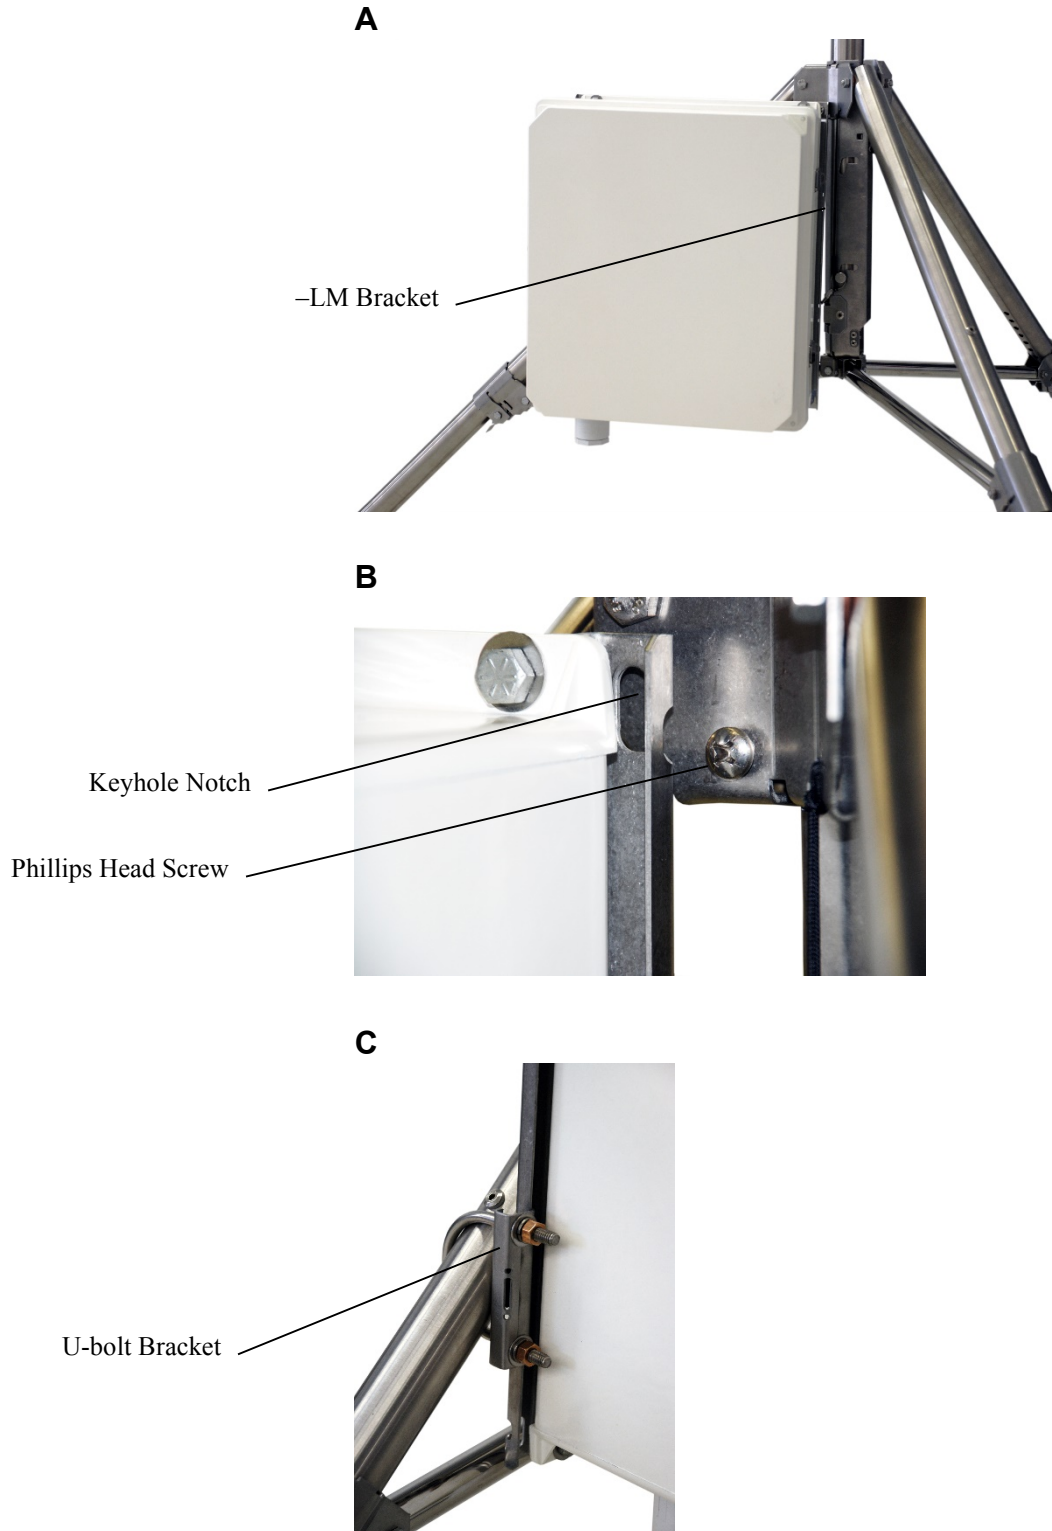

FIGURE 6-15. Enclosure with the -LM bracket
- Route the 14 AWG wire from the ground lug on the bottom side of the enclosure to the ground lug on the base of the tripod (FIGURE 6-15). Strip 1/2 in. of insulation from each end of the wire. Insert wire ends into the ground lugs and tighten.